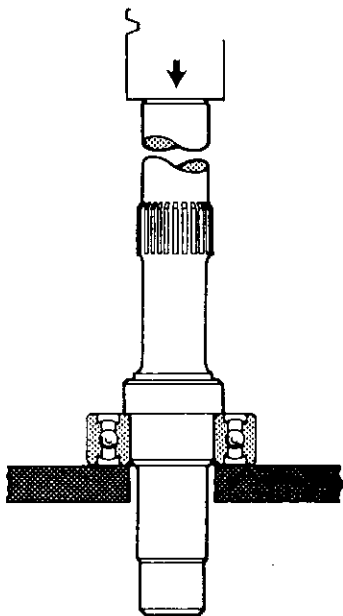

Figure 4.17
2. With air motor muffler flange clamped in vise, place a new gasket (3) and O-ring (2) in correct position on lower end plate. Position gear case (4) on lower end plate according to scribe marks, install six gear case screws (6) and lockwashers (5), and torque to 141-171 in. lbs. (15.9 to 19.3 N·m).
4. Press a new drive shaft bearing (10) onto drive shaft (28), as shown in Figure 4.17.